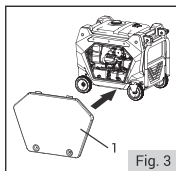

Fig. 3
3. Reinstall the cover (Fig. 3 - 1).